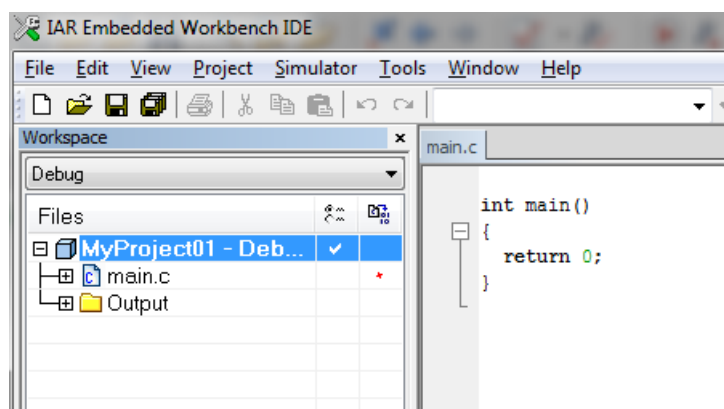

Figure 1-27. New project
4. Navigate to the folder where you want to create the project, for example, C:\IARProjects\MyProject01. Type the name of the project, for example, MyProject01. Click Save, and a new project is created. The new project is now visible in the left-hand part of IAR Embedded Workbench. See Figure 1-27.